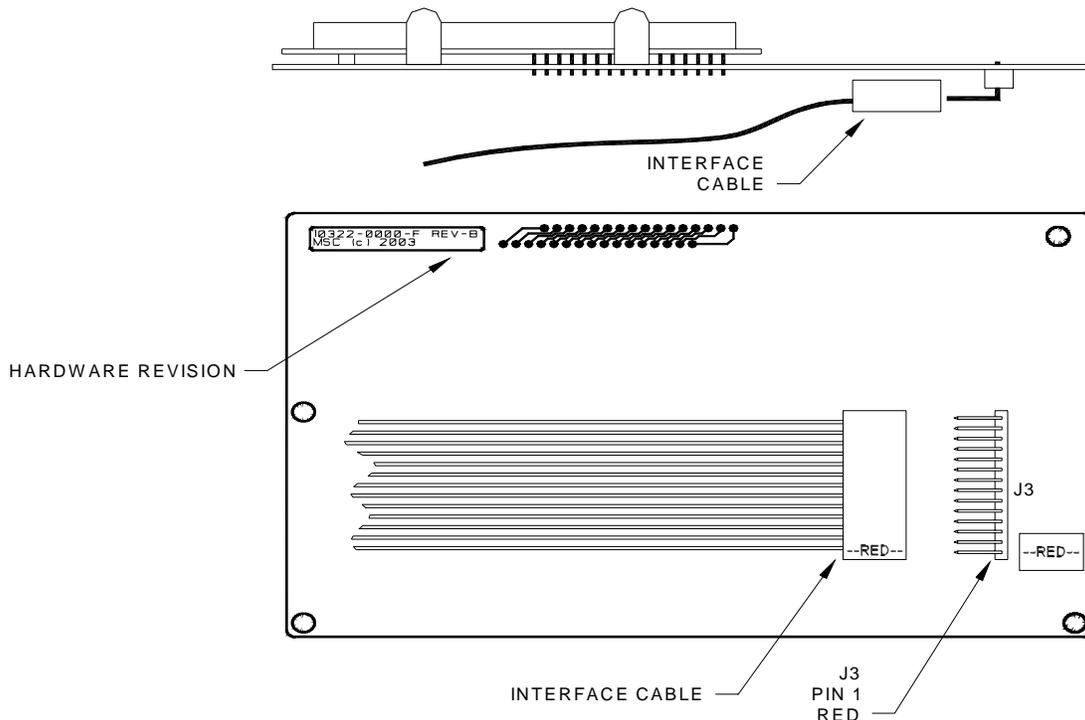

Figure 1-2: Rear and Side View of MR-DT Circuit Board
- 2) Remove the MRDT body from the mounting plate. The circuit board revision is located on the backside of the board in the upper left hand corner, see figure 1-2.